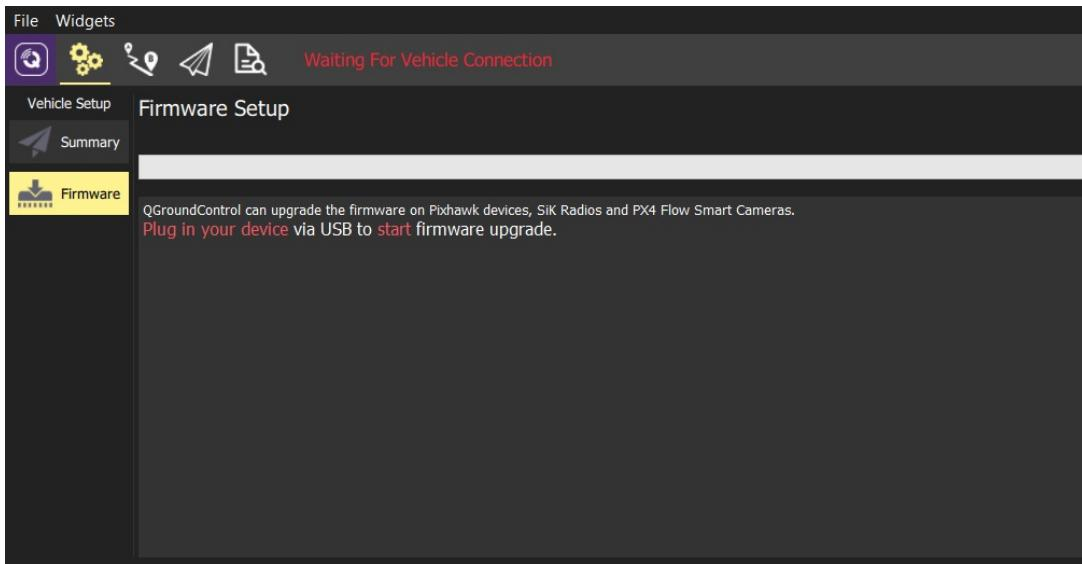

Figure 3.1: Firmware disconnected
1. First select the **Gear** icon (*Vehicle Setup*) in the top toolbar and then **Firmware** in the sidebar. See figure 3.1.